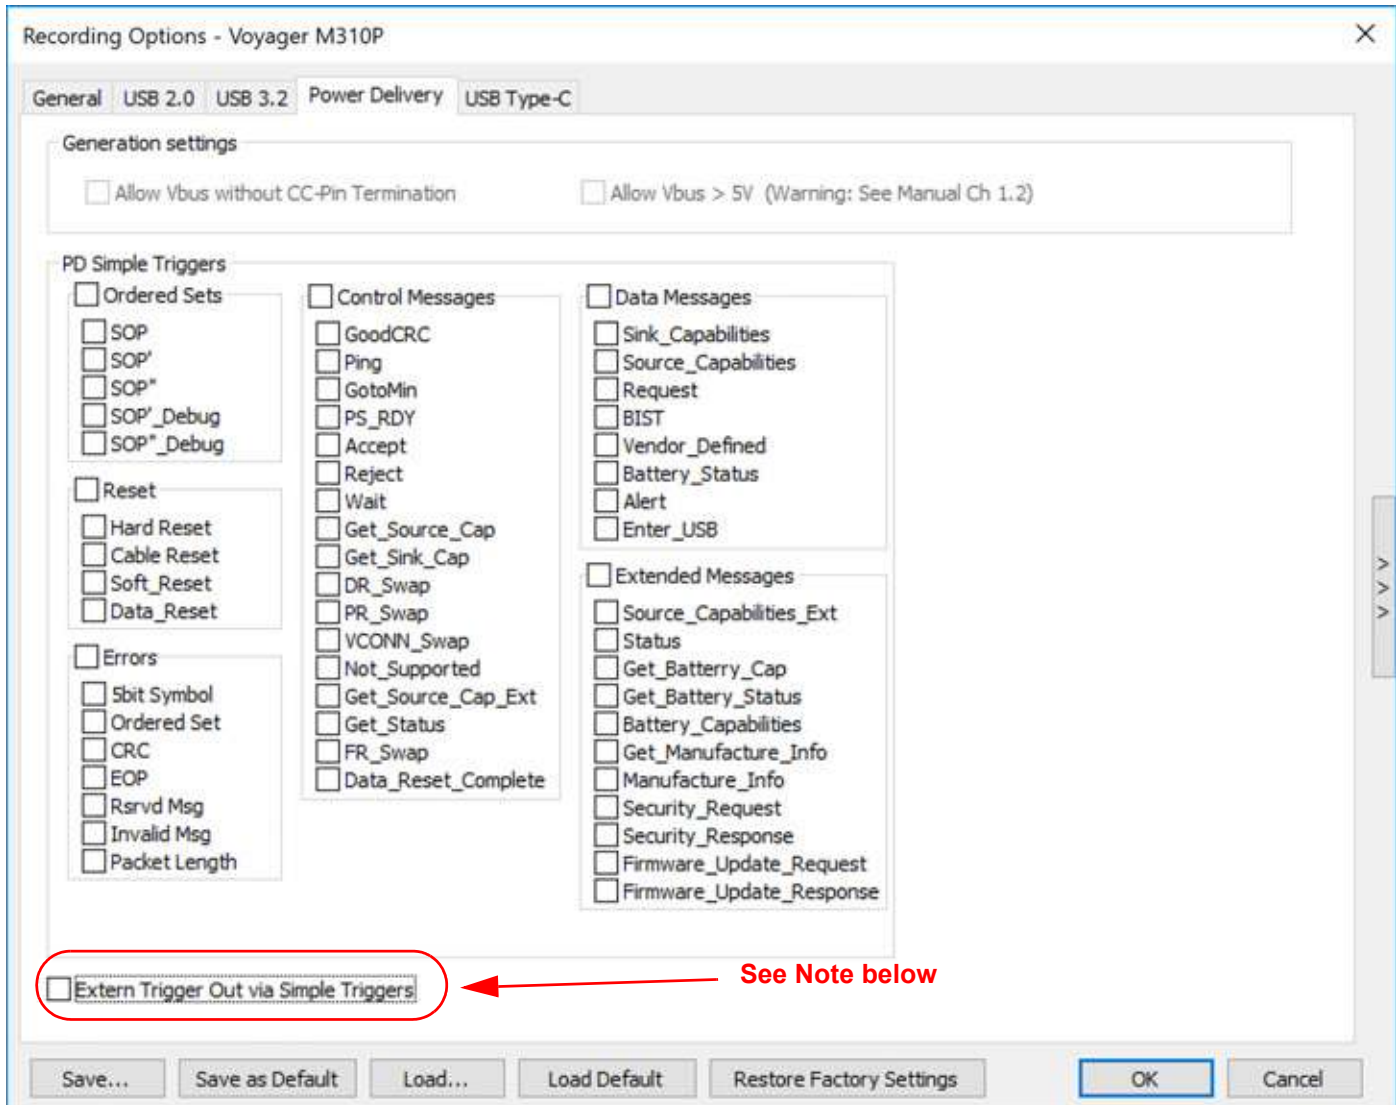

Figure 5.72: Power Delivery Recording Options -> Analyzer (Simple Mode) for M4x, M310P, M310C, T2P and T2C
- ❑ Analyzer Mode: Figure 5.72